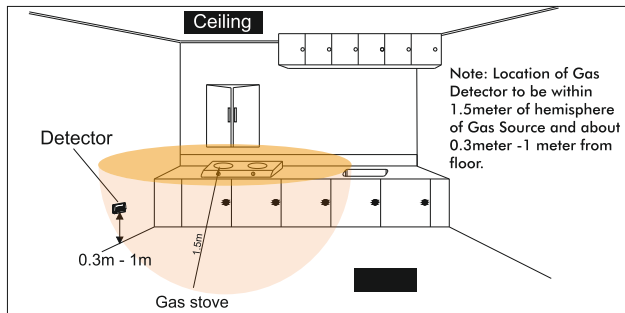

fig.1
- Stand alone function: Install the unit at a suitable position with wiring as shown in fig.1 for LPG Gas & fig.2 for Natural Gas.